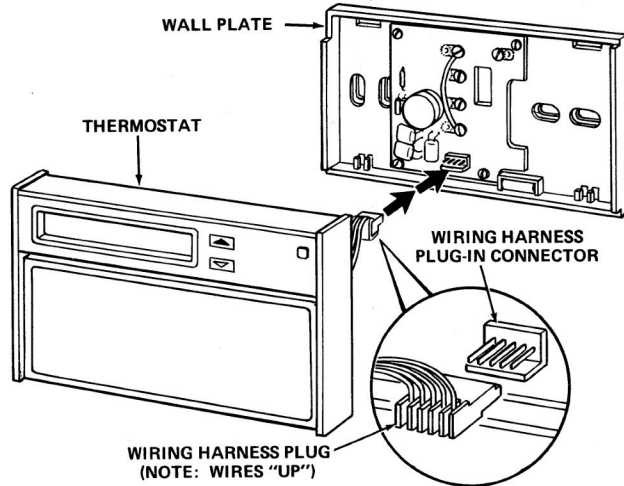
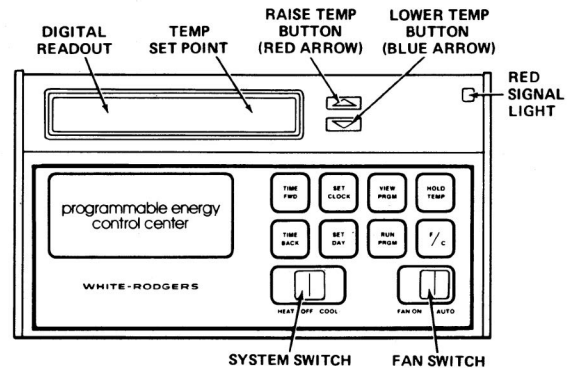

Fig. 5
Fig. 7
STEP 7. NOTE: Move system switch on thermostat to the "OFF" position, and fan switch to "AUTO". (Fig. 7) Carefully plug wiring harness from thermostat into mating connector on wall plate. (Fig. 5) **NOTE:** If battery is not fully inserted, thermostat will not snap closed.
6. Press **RAISE TEMP** button (Fig. 7) to adjust thermostat to call for heat. Red signal light on upper corner of thermostat (Fig. 7) should illuminate. Heating system should begin operating.